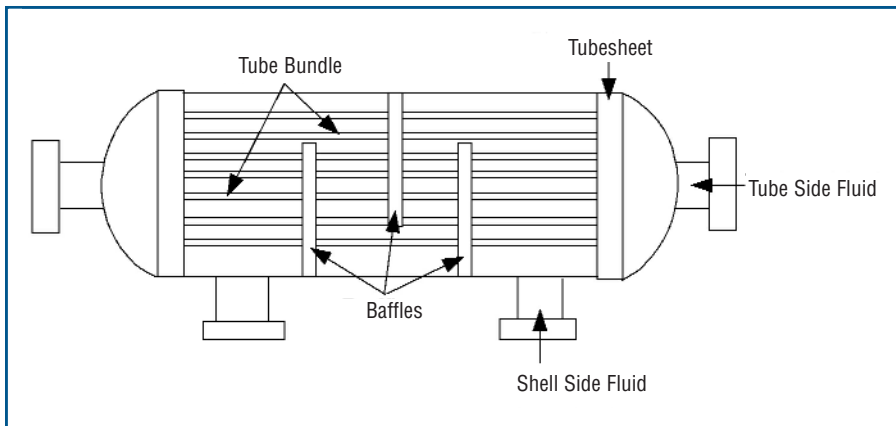

Figure 9. Shell and Tube Heat Exchanger
**Tubular Heat Exchanger.** Tubular heat exchangers are tube bundles that are surrounded by the heated or heating medium. This type of heat exchanger includes finned tube and shell and tube designs as shown in Figure 9. Finned tube heat exchangers are often used to heat air for drying and space heating applications. Shell and tube heat exchangers are often used for liquid heating and evaporation. Since the tube side of shell and tube heat exchangers can be designed to withstand high pressures, sometimes exceeding 1,500 psig, heat exchangers of this type are often used in high temperature and high-pressure applications.